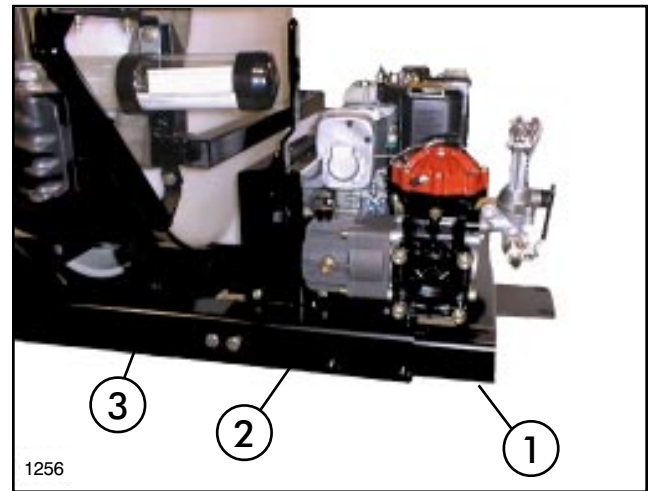

FIG. 2
6. Slide Tongue Adapter through Engine / Pump Base and into Saddle Assembly on end with Safety Decals on Tank. Secure with (4) 1/2" x 3-1/2" hex. hd. cap screws and flange locknuts. See FIG. 2.